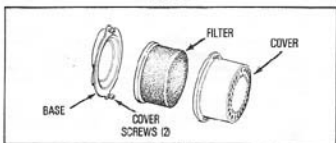

Figure 6
If your engine is equipped with a FOAM TYPE FILTER (see Figure 6), proceed as follows:
B. FOAM TYPE FILTER (see Figure 6).